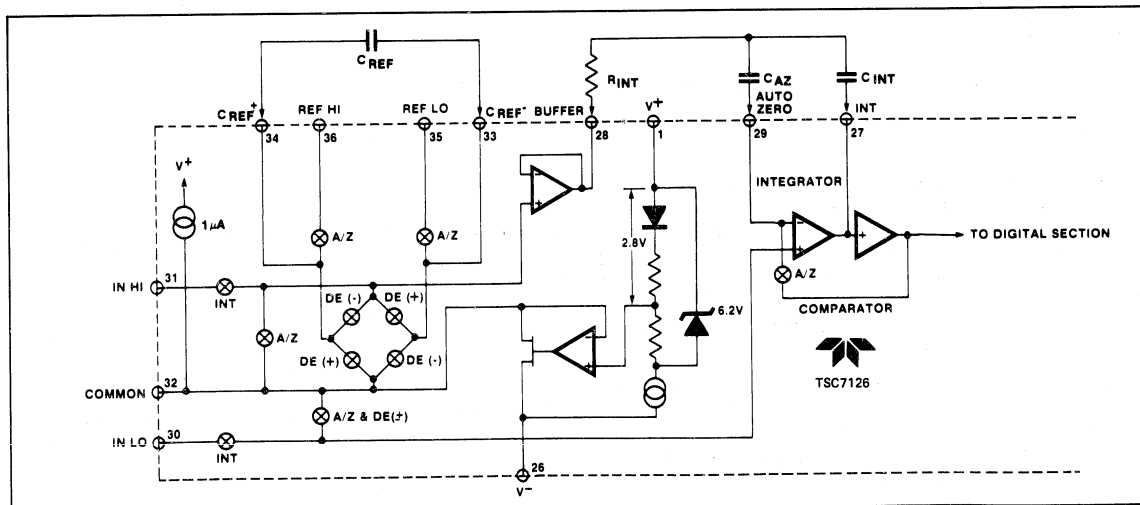

Figure 3: Analog Section of TSC7126.
Figure 3 shows the Block Diagram of the Analog Section for the 7126. Each measurement cycle is divided into three phases. They are (1) auto-zero (A-Z), (2) signal integrate (INT) and (3) de-integrate, (DE).